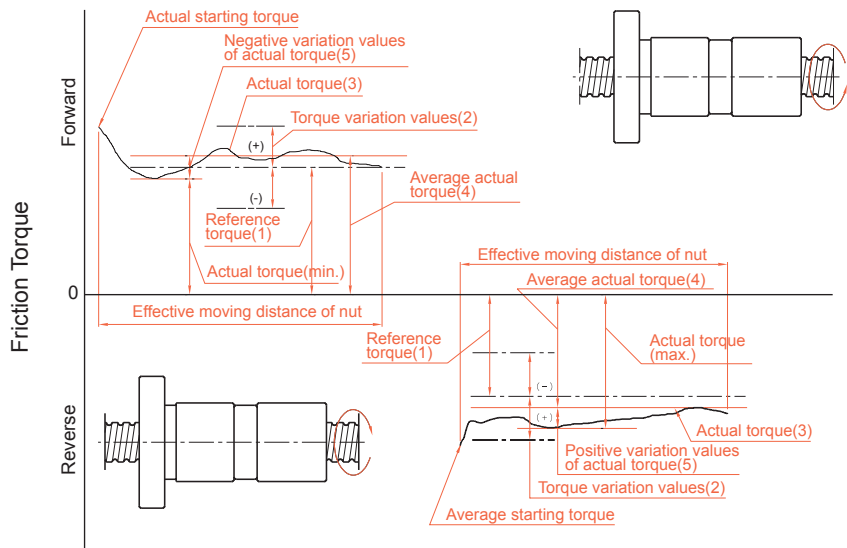

Fig 1.3.3 Descriptions of preload torque
As figure 1.3.3 shown in below, it specified all the type of preload torque generated by rotating a preloaded ball screw.
The targeted preload dynamic torque Fig 1.3.3-(1)
The variation values of the targeted preload torque variation rates are specified generally based on JIS standards as indicated in Fig 1.3.3.